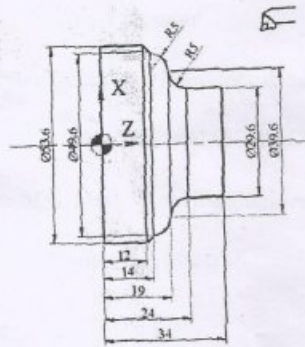

Fig.16(a)
16. (a) From a raw material  $\phi 55 \times 40$  mm turn the component to the dimensions shown in figure 16(a) on a CNC Lathe. Plan the process, work holding and tools required to machine the component. Write the manual part programming for CNC turning.